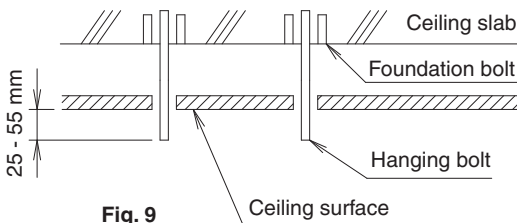

Fig. 9
(4) Install the hanging bolts.
- Adjust the length of the hanging bolt from the ceiling in advance. (Refer to Fig. 9)
- Parts shown Fig. 9 will be all field supply.